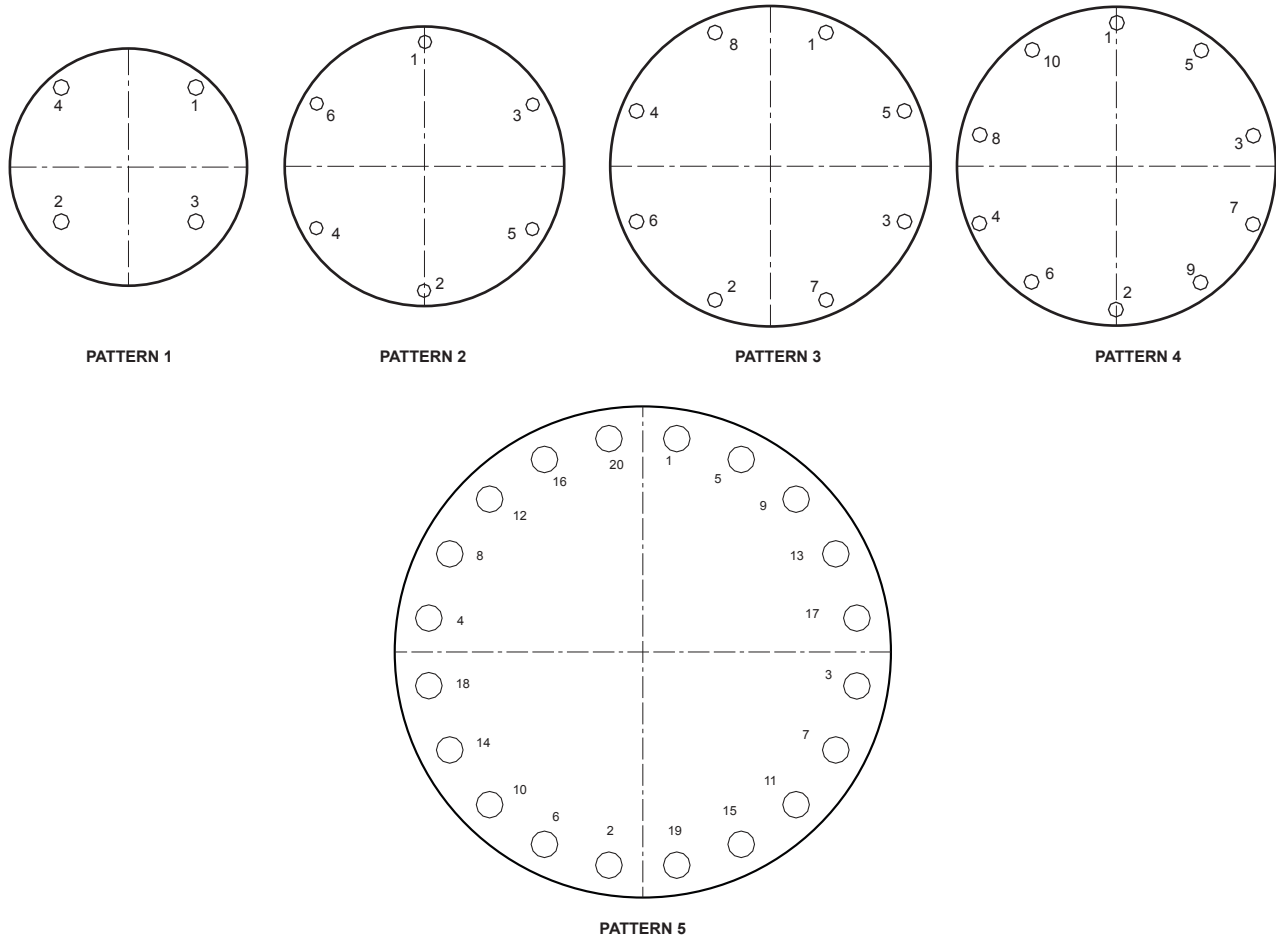

Figure 6. Flange Pattern Tightening Sequence
4. Tighten the nuts to the values shown in Table 7 following the designated sequence, repeating the sequence as shown. Flange pattern tightening sequences are shown in Figure 6.